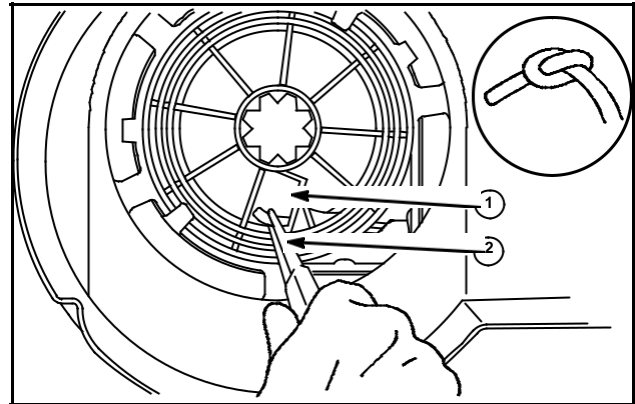

Fig. 15
Tie a knot in rope and pull tight. Manipulate knot with needlenose pliers (2) so it can be pulled down into knot cavity (1), Fig. 15.